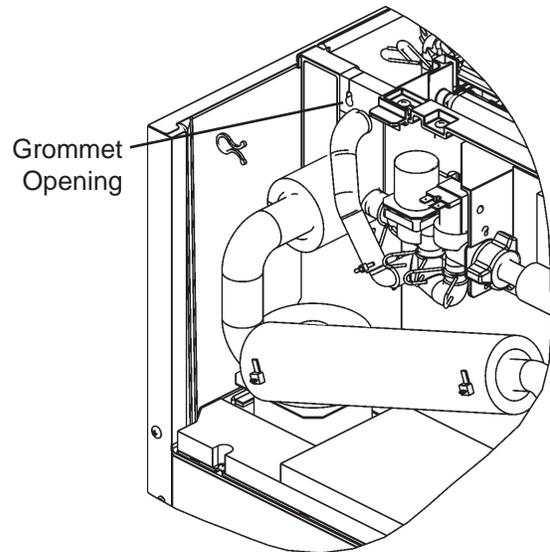

Fig. 7
- 4) Disconnect FS lead connector and remove the lead wire from the grommet opening. See Fig. 7.